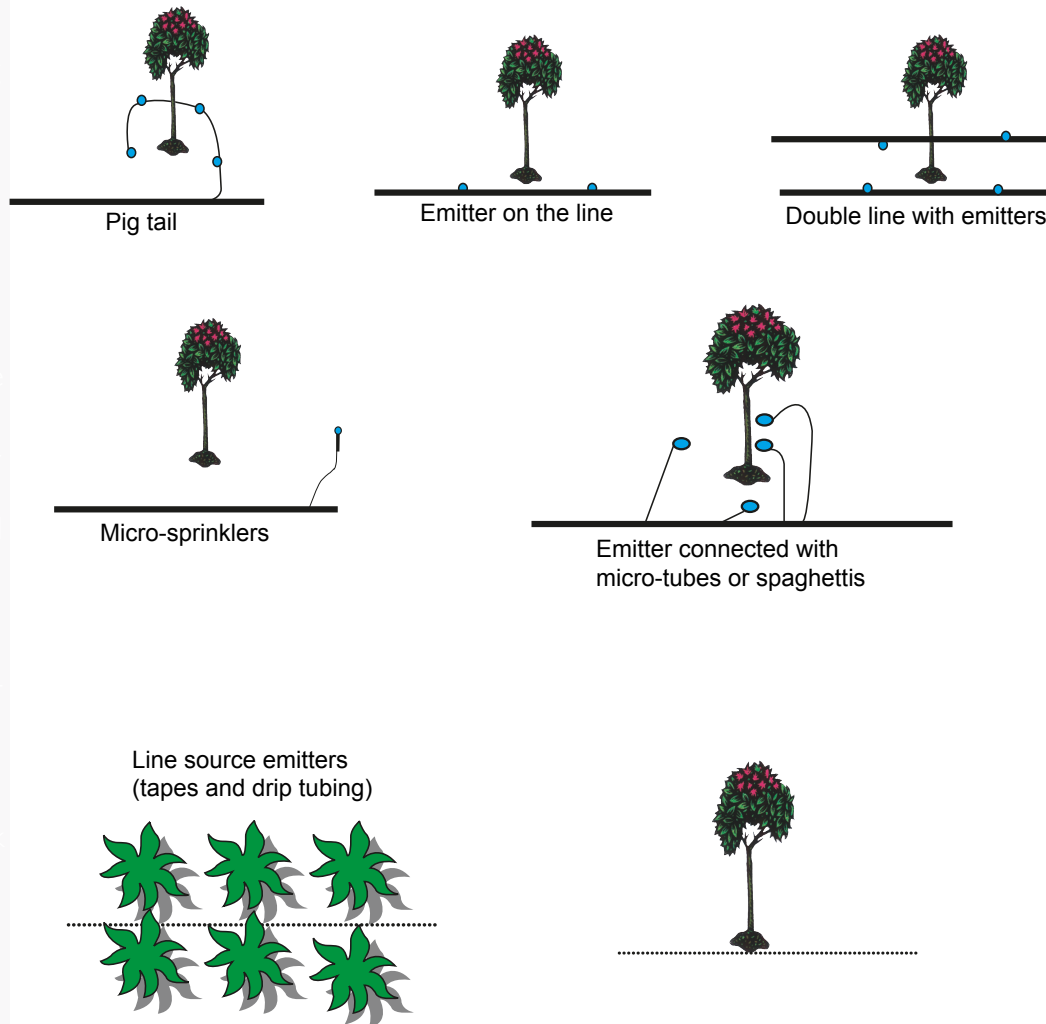

Fig. 3. Installation configurations of point source and line source emitters.
Emitter placement and configuration affects water efficiency, plant germination and establishment, nutrient utilization efficiency and soil salinity. Emitter type and placement also affect wetted zone size and horizontal and downward movement of water. When you want a larger wetted area, place more point source emitters per plant (Fig. 3). More emitters can be installed (1) by supplying them from the lateral using several spaghetti tubes or (2) by using a “pigtail configuration” to feed several emitters from a line stemming from a lateral surrounding the plants. Another option is to install two laterals instead of one, distributing several emitters along each.